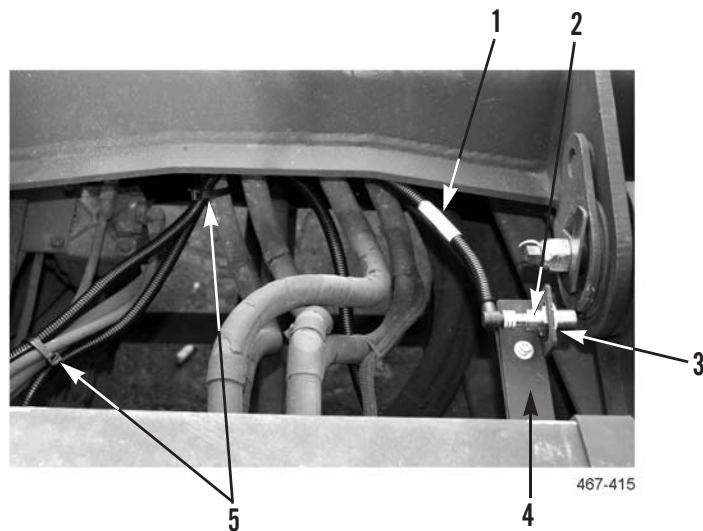

Figure 47. Middle Frame Sensor Installation.
- Route middle frame sensor harness (Figure 47, Item 1) as shown.
- Remove nut (Figure 47, Item 3) from sensor (Figure 47, Item 2) and install sensor and nut on bracket (Figure 47, Item 4).
- Install new tiedown straps (Figure 47, Item 5) as required.